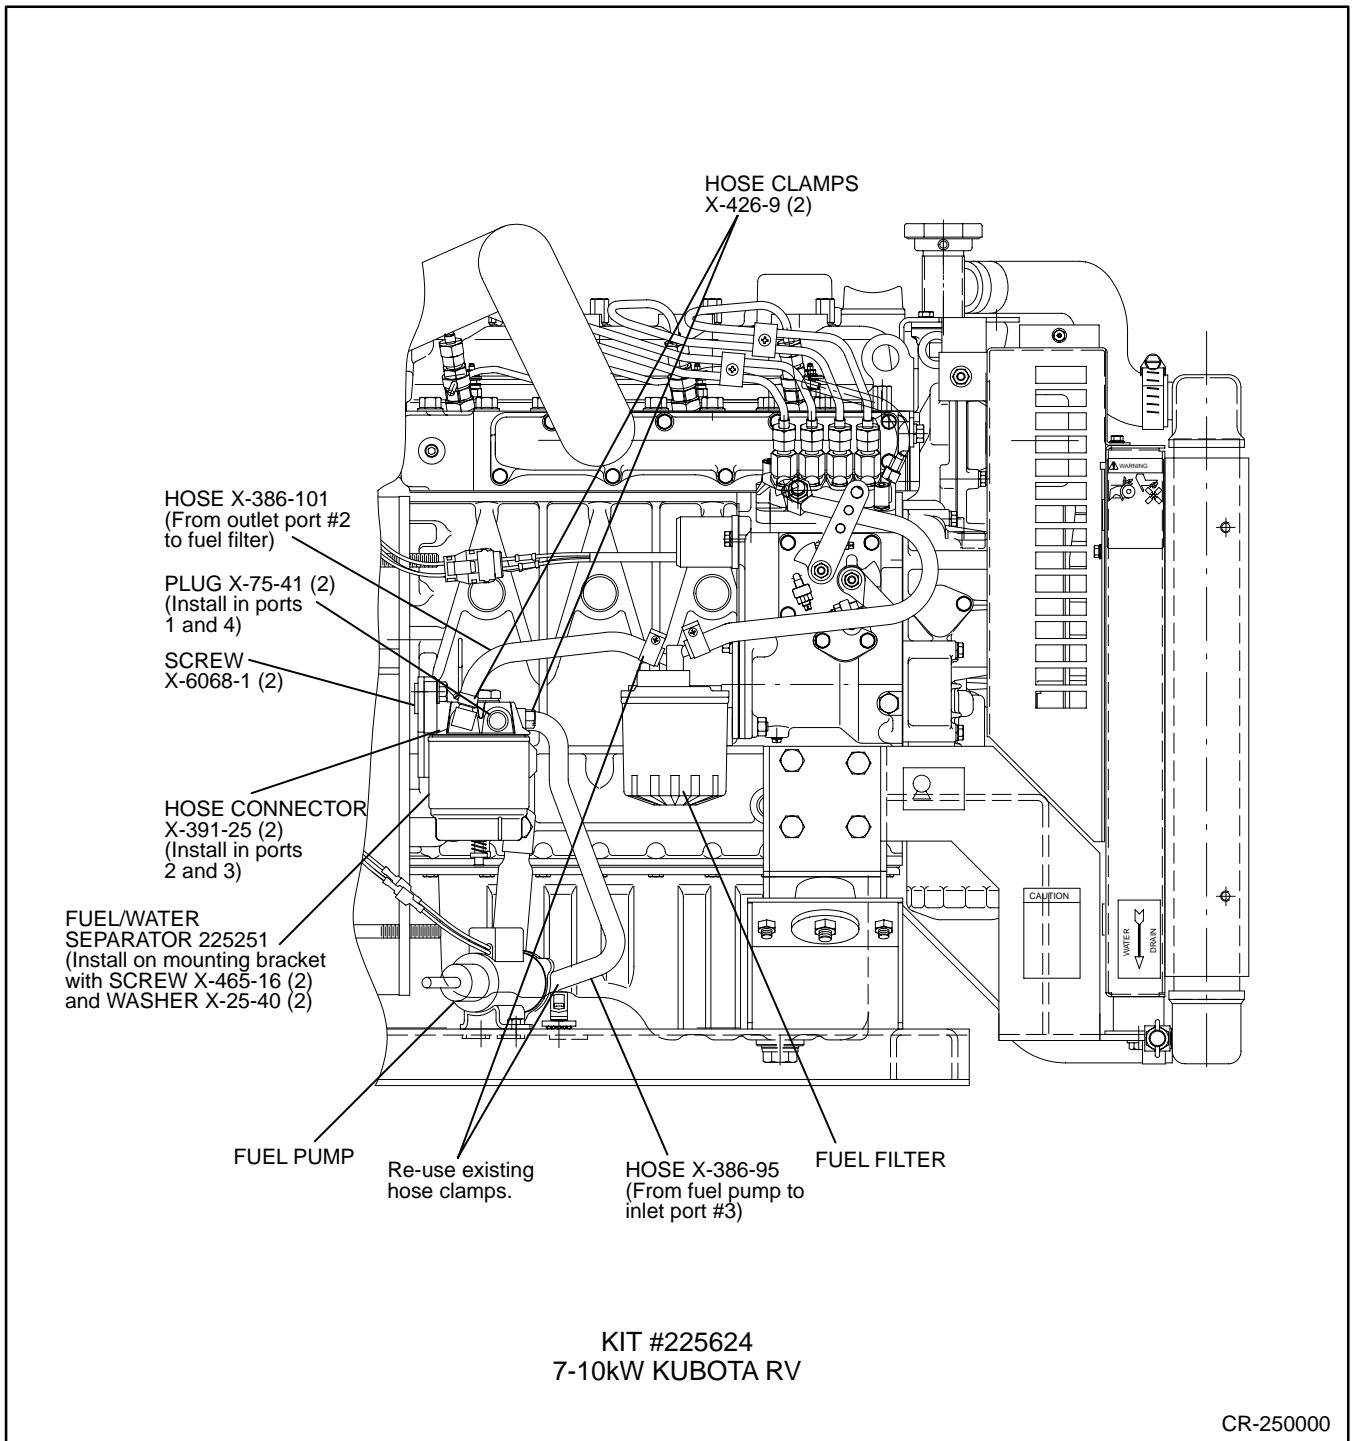

Figure 2. Installing Fuel/Water Separator
4. Install water separator (225251) on bracket with two 1/4-20 x 0.75 screws (X-465-16) and two 1/4-in. washers (X-25-40). See Figure 2.